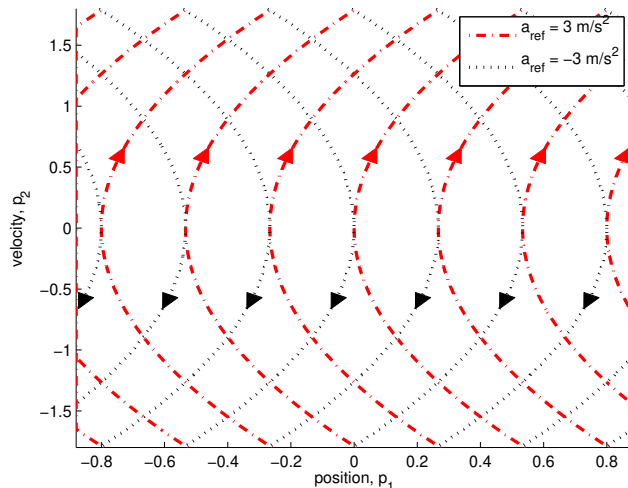

Figure 3 Trajectories for $a_{ref} = a_{max} = 3 \text{ m/s}^2$ and $a_{ref} = -a_{max} = -3 \text{ m/s}^2$
Phase plane trajectories for some values of C_1 and C_2 , when $a_{max} = 3 \text{ m/s}^2$, are plotted in Figure 3.
- The system should be controlled to the origin. Decide graphically from Figure 3 the regions of the state space where a_{max} and $-a_{max}$ should be used respectively to achieve this. Draw the switching curve between the two regions.
- Determine an equation $f(p_1, p_2) = 0$ that describes how p_1 and p_2 relate to each other on the switching curve. (*Hint*: First determine the constants, C_1 and C_2 , in (6) and (7). Then put the equations together. To do this you will need to use $\text{sign}(p_2)$.)